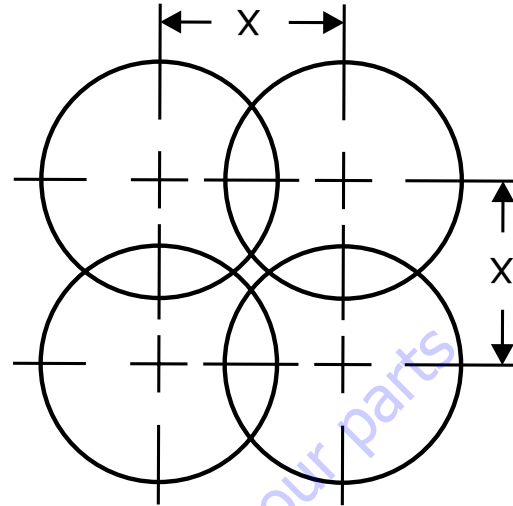

Figure 19. Area of Influence with 50% Radial Overlap
3. Insert the vibrator head vertically into the concrete and move it in the pattern shown in Figure 19 to maintain a consistent area of influence.